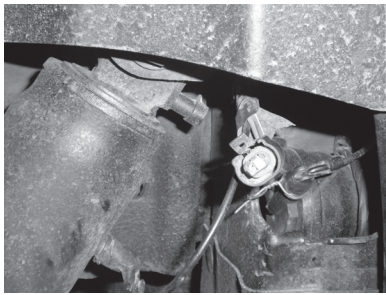

FIG. 3
**10.** (FIG. 3) Remove the air line from the shock by separating the clip and pull straight out. Prevent dirt from entering the end of this air line.
**11.** (FIG. 3) Disconnect the electrical connector for the electronic ride control from the rearward portion of the shock.